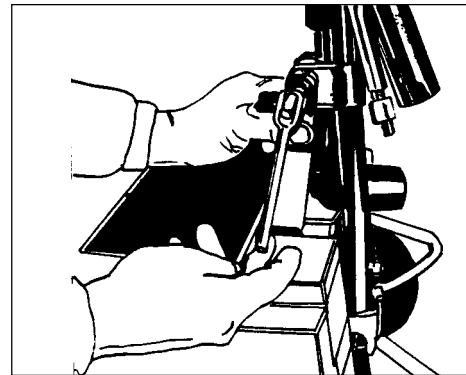

Figure 7
12. Insert the cam through the link arms and the handle tube clamp. See figure 7.